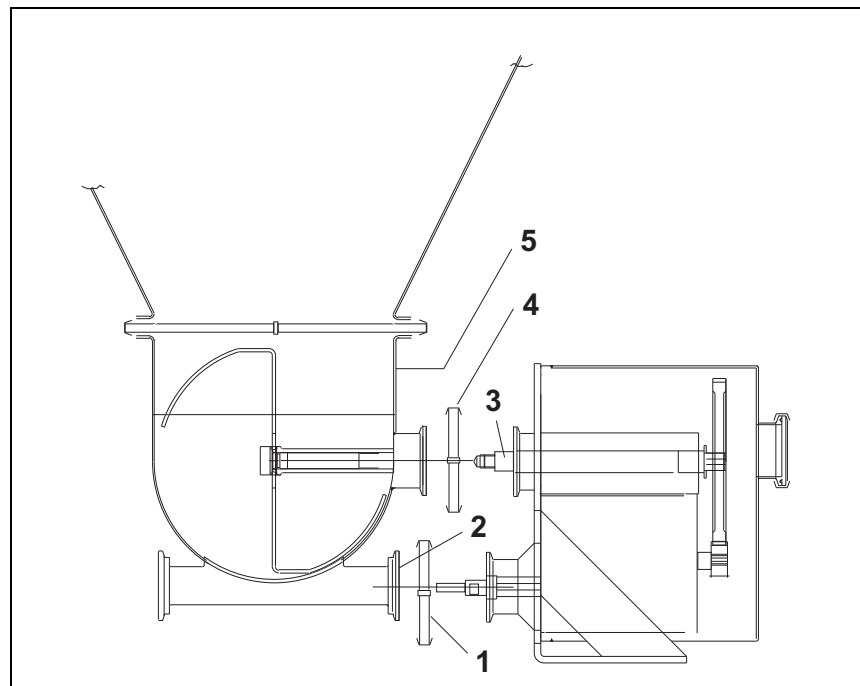

Fig. 6.11 Replacing the agitator hopper
4. Position the agitator hopper (Fig. 6.11/ 3) at the drive unit.
5. Fastening clamping ring (Fig. 6.11/ 1, 2).